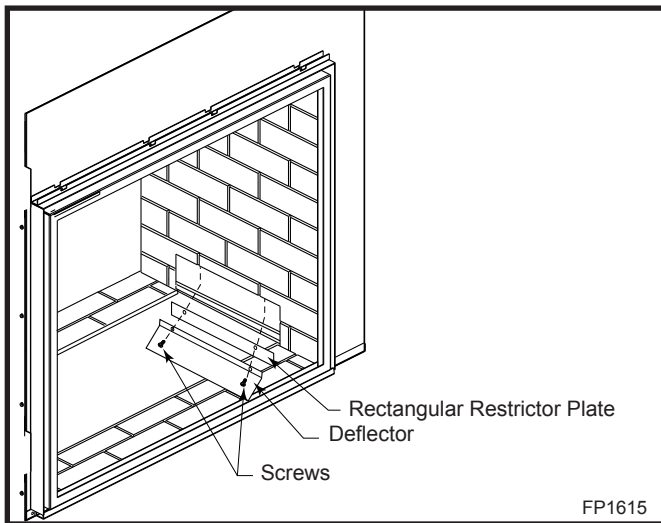

Fig. 29 Turn rectangular restrictor plate over to partially cover opening.
3. Remove the two (2) screws securing the deflector and the rectangular restrictor plate in place. (Fig. 29) Turn the restrictor plate around so the body of the plate will extend down over the air opening.